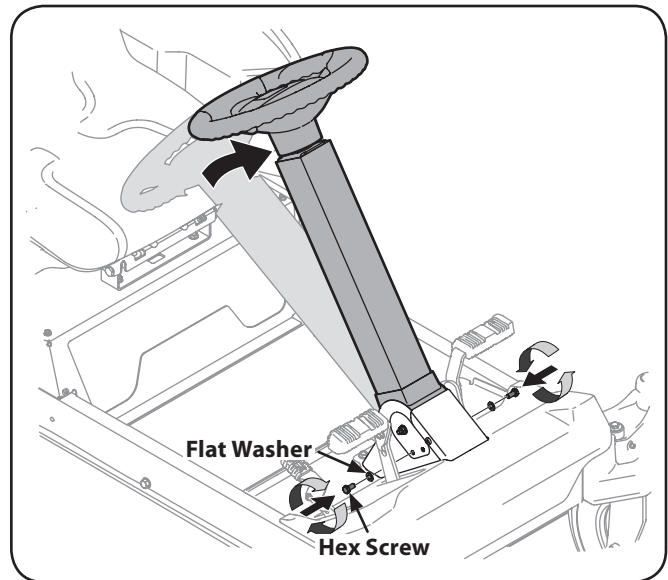

Figure 3-2
1. Place the steering column in one of the two positions and secure in place with the hex screws and flat washers packed separately. See Figure 3-2.